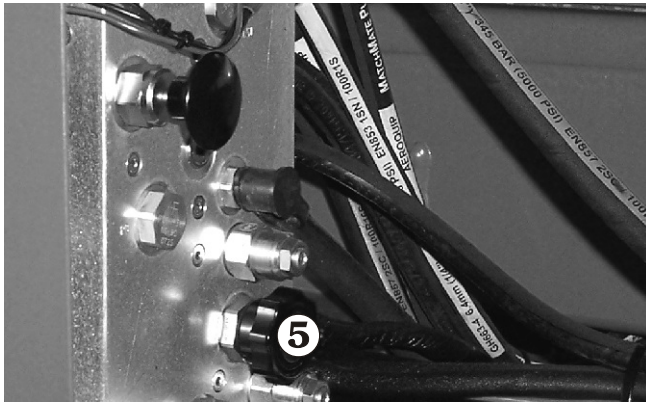

Figure 9.9
3. Inside the hydraulic compartment, open the free-wheeling valve ⑤ by turning counterclockwise until knob stops. (see Figure 9.9).
5. Once the unit has been safely pushed / towed pull the re-set knob ⑦ to re-apply the brakes (see Figure 9.11) and close the free-wheel valve ⑤ (see Figure 9.9).